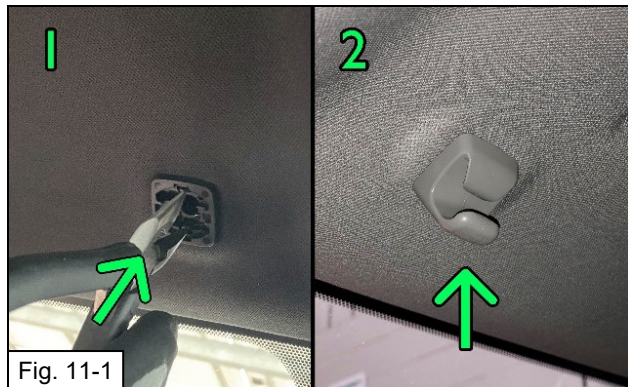

Fig. 11-1
- (a) Insert the clip bases on both sides of the map light console, they should snap securely into place. (Fig. 11-1 L)
- (b) Insert the visor clips by placing them in the correct orientation and pushing them directly up into the bases. (Fig. 11-1 R)